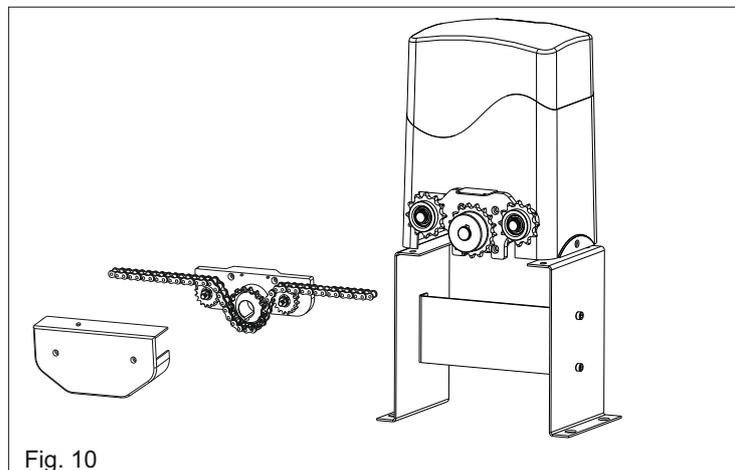

Fig. 10
The assembling of the main parts which include the whole chain automation is illustrated in Fig. 10.
6.2. Install the chain making it pass through the pinion group as in Fig.10.